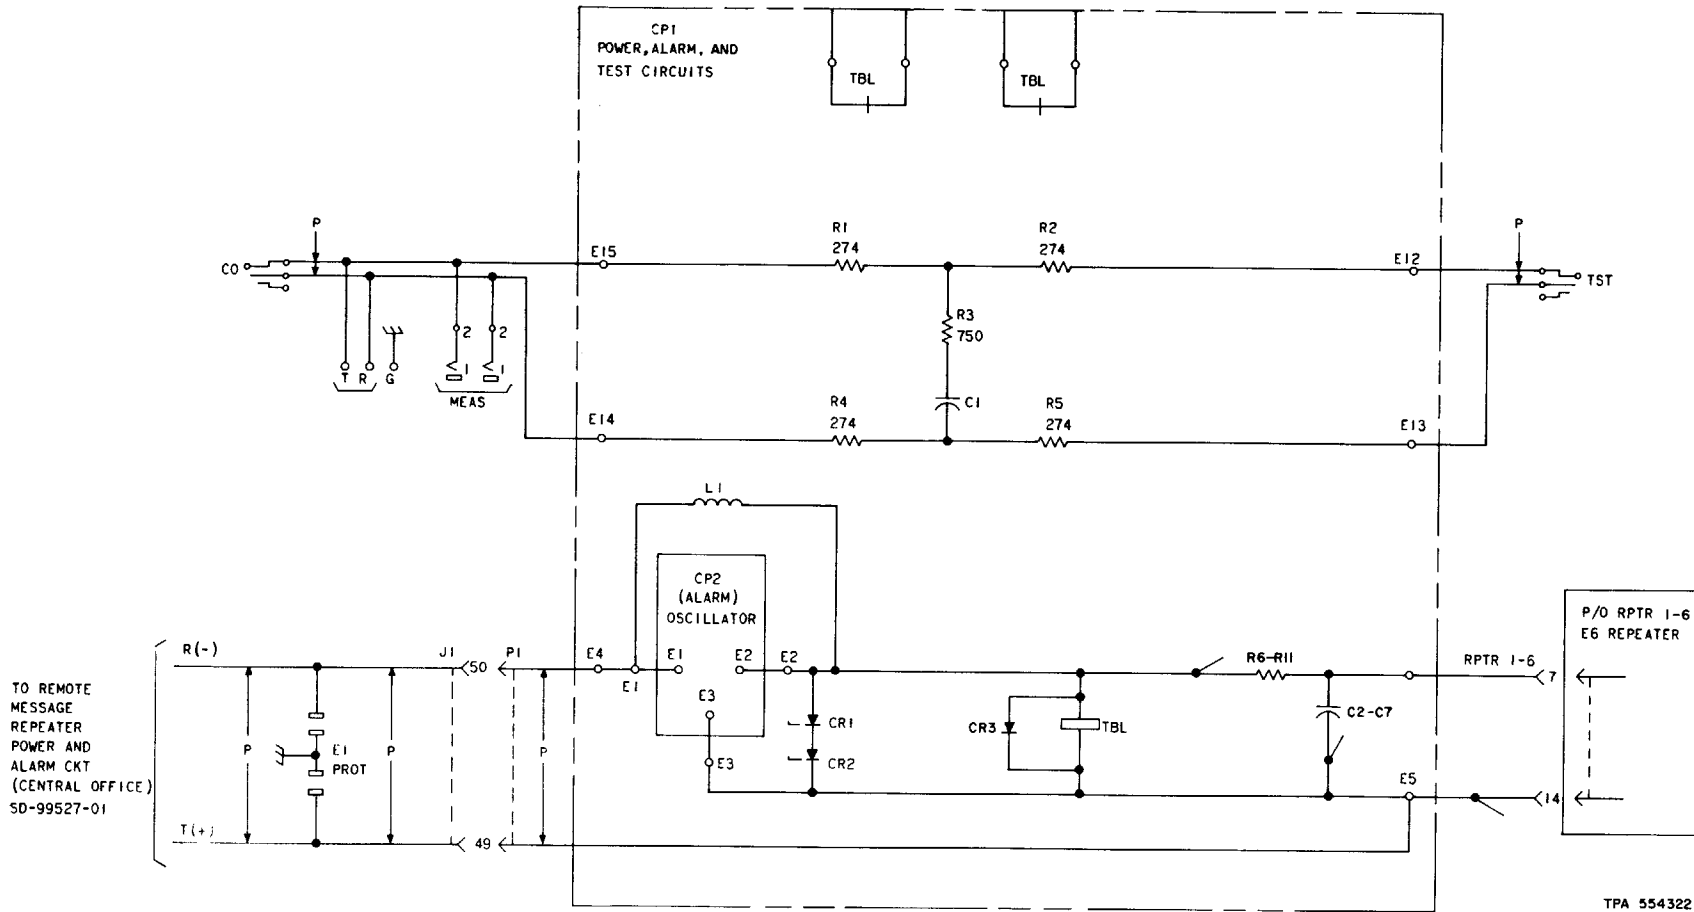

Fig. 3—CP1 Power, Alarm, and Test Circuits
2.02 The 596A panel consists of a shelf for mounting six E6 repeaters; a circuit pack (CP1) (Fig. 3) containing power, alarm, and test circuits; and an 81A oscillator (CP2). The oscillator (900-Hz) is used to furnish the central office circuit with a signal indicating that the E6 repeaters in the remote cabinet are satisfactorily powered. A jack field is provided for checking repeater operation and testing subscriber lines.